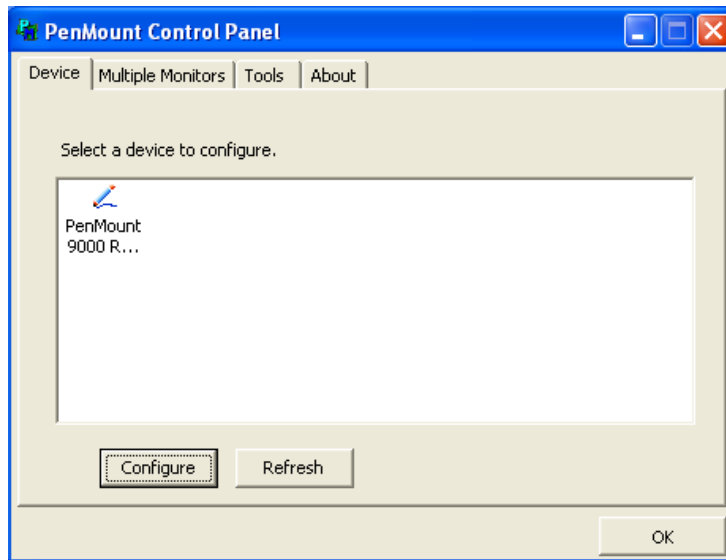

Figure 5-29: Configuration Screen
Step 5: The configuration screen in **Figure 5-29** appears.
Step 6: Double click the PenMount 9000 icon as shown in **Figure 5-29**.